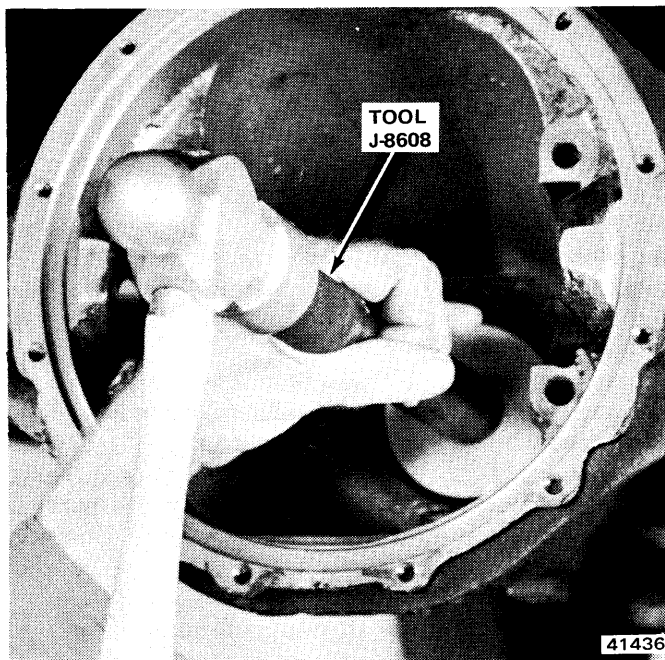

Fig. 10-34 Installing Pinion Rear Bearing Cup
(1) Install rear bearing on pinion gear with large diameter of roller case toward gear. Press bearing against rear face of gear.
(2) Clean axle housing bearing bores to correctly check pinion gear depth.
(3) Install shim in rear bearing bore of housing and install rear bearing cup with Driver Handle J-8592 and Bearing Cup Installer J-8608 (fig. 10-34).